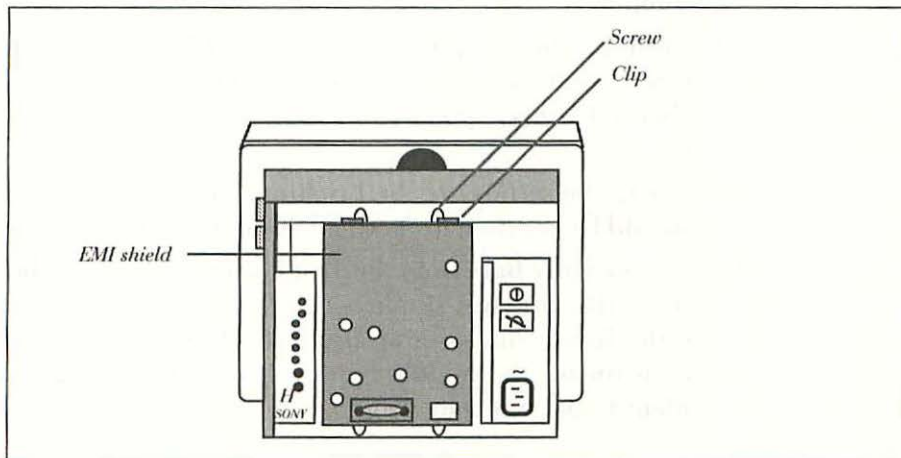

Figure 3-18 An aluminium-colored EMI shield is press-fit over the “B” board at the back of the monitor.
6. As shown in Figure 3-18, an aluminium-colored electromagnetic interference (EMI) shield is press-fit over the "B" and "C" boards at the back of the monitor. There are two dimples at the bottom of the shield and two clips at the top. The screws just below the dimples and just above the clips *do not* have to be removed. Without removing the screws, gently pull off the shield and put it aside.
8. As shown in Figure 3-18, a secondary electromagnetic interference shield is press fit over the "B" and "C" boards at the back of the monitor. There are two dimples at the bottom of the shield and two clips at the top. The screws just below the dimples and just above the clips *do not* have to be removed. Without removing the screws, gently pull off the shield and put it aside.